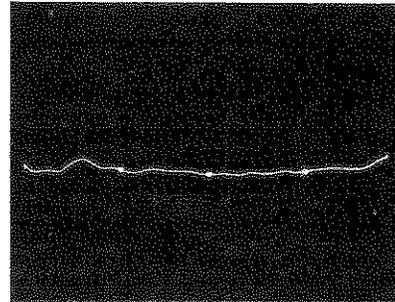

Figure 4-16. Typical Display with Intensity Markers
- j. Oscilloscope display should be similar to typical display shown in Figure 4-16.